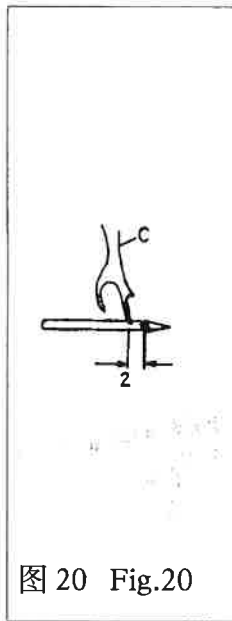

图 20 Fig.20
钩线叉的左右位置,当钩线叉的长叉尖与机针中心线相交时,长叉尖中心到机针穿线孔左边的距离为 2 毫米左右(图 20)。
When the pronged thread hook intersects the central line of the needle, the center of pronged thread hook is deviated from the left side of the needle eye in 2mm distance (Fig.20)
(3) 钩线叉高低位置 钩线叉的高低位置以钩线叉叉尖与机针相交(图 20)时, 间隙很小但又不相撞为佳, 一般要求间隙不大于 0.05 毫米。
Make the prong of thread hook intersect the needle (Fig.20) on condition that prong shall not come into contact with the needle. The interval between the prong and the needle shall be less than 0.05mm